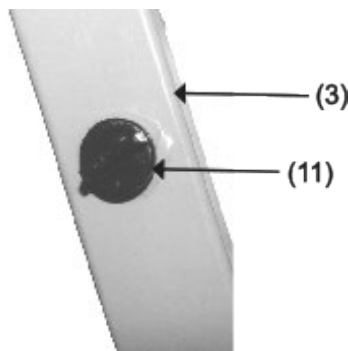

Figure 2
3. Secure Cross Bar (8) to both the Main Support (3) and Leg (1). Slide Spring Washer (9) and Washer (10) onto Bolt (5). Thread in through Main Support (3) and into Cross Bar (8). From the opposite side, slide Spring Washer (9) and Washer (10) onto second Bolt (5) and thread into Leg (1) and into Cross Bar (8).
6. Unscrew and remove both Plugs (11) and fill the stand with sand to reduce noise when using the product. Only use sand to fill the stand. Do not use any other material or any liquid to fill the stand. Screw the Plugs back onto the stand. See Figure 2 for details.